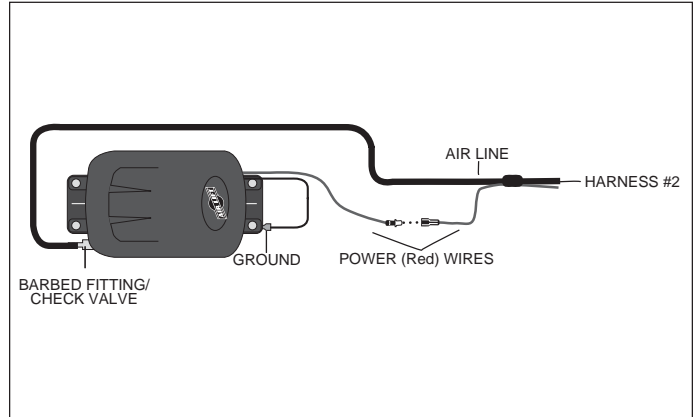
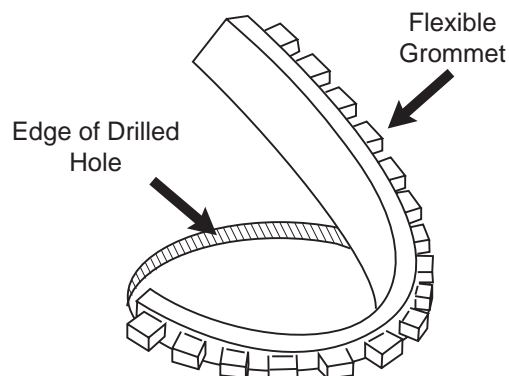

Figure 5
Figure 8
4. Attach Harness #2 to the Compressor unit. Push the air line completely over the barbed fitting on the compressor and connect the power wire (red) (Figure 5).
Route Wiring Harness #2 from the compressor. Use existing grommets in the floorboard or firewall to route the Harness from the compressor to the low pressure sensor. A hole may have to be drilled to allow access for the Harness. Drill a $5/8$ " diameter hole and install the provided grommet (Figure 8). It will be necessary to seal any grommets or holes that have been cut, drilled or removed so as not to allow elements to enter the cab area of the vehicle (Figure 5).